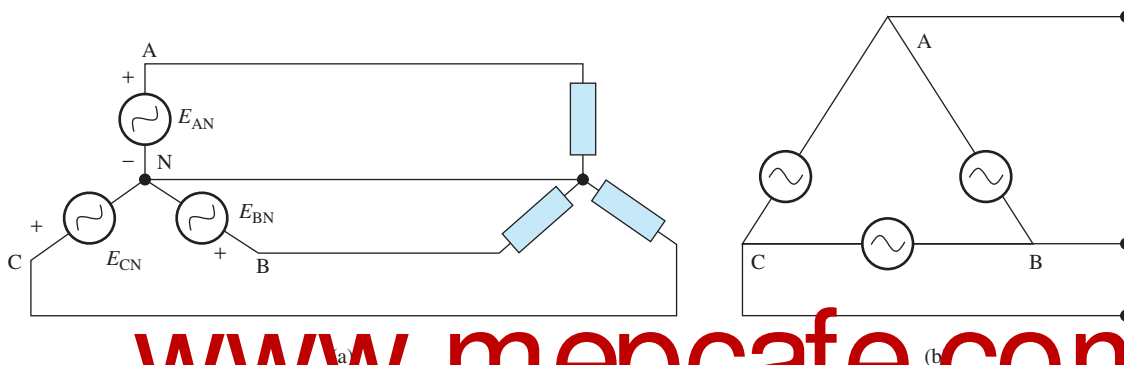

FIGURE 9.3 (a) Star-connected generator feeds a star (Y) connected load. (b) Star-connected generator.
Figure 9.3(a) represents a simple three-phase circuit. Usually, generator coils are connected in star (Y) to avoid power loss and lower production costs. As explained in this section, generators are rarely Δ -connected [see Figure 9.3(b)]. Note that the Δ -shaped wiring creates a loop that allows the circulation of the current. In this formation, if the phase voltages of each Δ -connected side are not perfectly balanced, for example, due to the phase-winding imbalance across these voltages, there will be a net voltage, and consequently a circulating current around the Δ -shaped wiring. This results in a power loss. Moreover, the phase voltages are lower in a Y-connected generator, and thus, less insulation is required to maintain safe transmission of power through the transmission lines. This leads to lower cost of transmission lines and cables. The next subsection explains the notion of star and Δ connection of generators and loads.
At power generation stations, three sinusoidal voltages are generated having the same amplitude but displaced in phase by 120° . This is called a balanced voltage source, as shown in Figure 9.3. The point at which all coils are connected is called the neutral point, N.